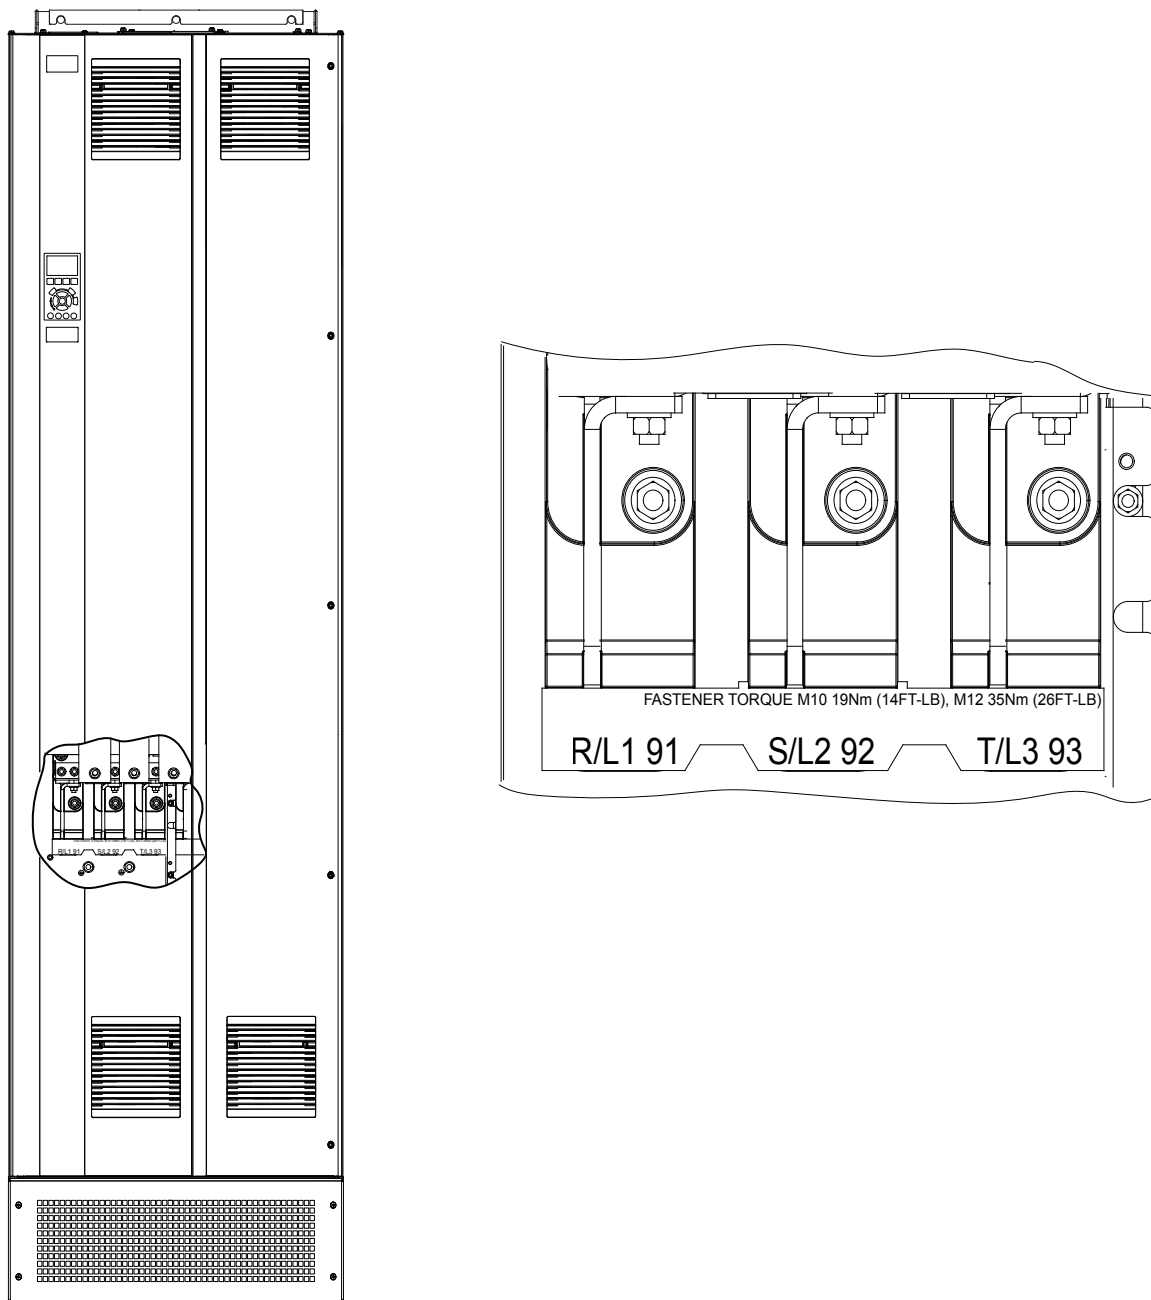

Figure 5.4 AC mains terminals (E1h shown). For a detailed view of terminals, refer to *chapter 5.7 Terminal Dimensions*.
4. Connect the 3-phase AC input power wiring to terminals R, S, and T (see *Figure 5.4*).